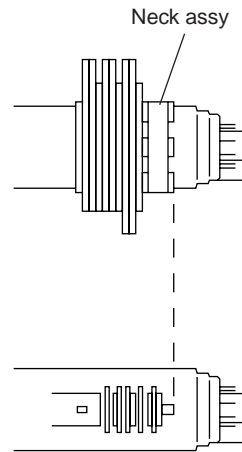

Fig. 1-3
8. Fix the neck assembly at the position shown in Fig. 1-3.